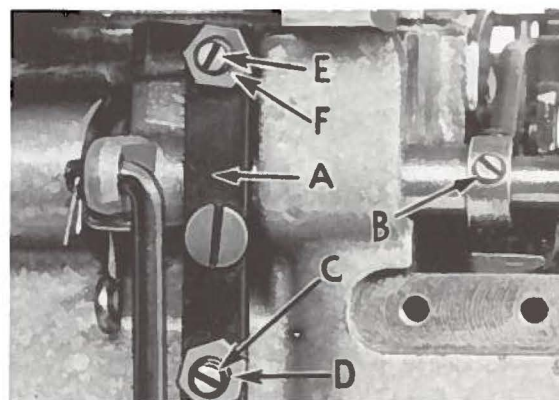

Fig. 14
Foot lifter lever arm (A, Fig. 14) and collar (B) secure the shaft. Be sure presser arm does not bind and rise when presser foot release bushing is unlocked. To center presser foot and stitch tongue with respect to throat plate needle holder, loosen presser foot hinge screw.